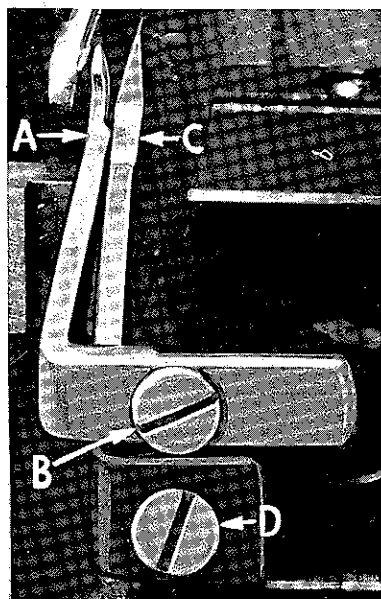

Fig. 5
Set rear needle guard (A, Fig. 5) as high as possible, without interfering with either lower looper or movement of lower knife holder, but still in position to deflect needle forward $-.002 - .004$ inch. Screw (B)
Assemble front needle guard (C, Fig. 5). When lower looper is springing needle off back guard, set front needle guard as close as possible to needle without touching. Screw (D) is used to adjust and set front needle guard. After this setting make sure there is no interference between needle guards and differential feed dog.